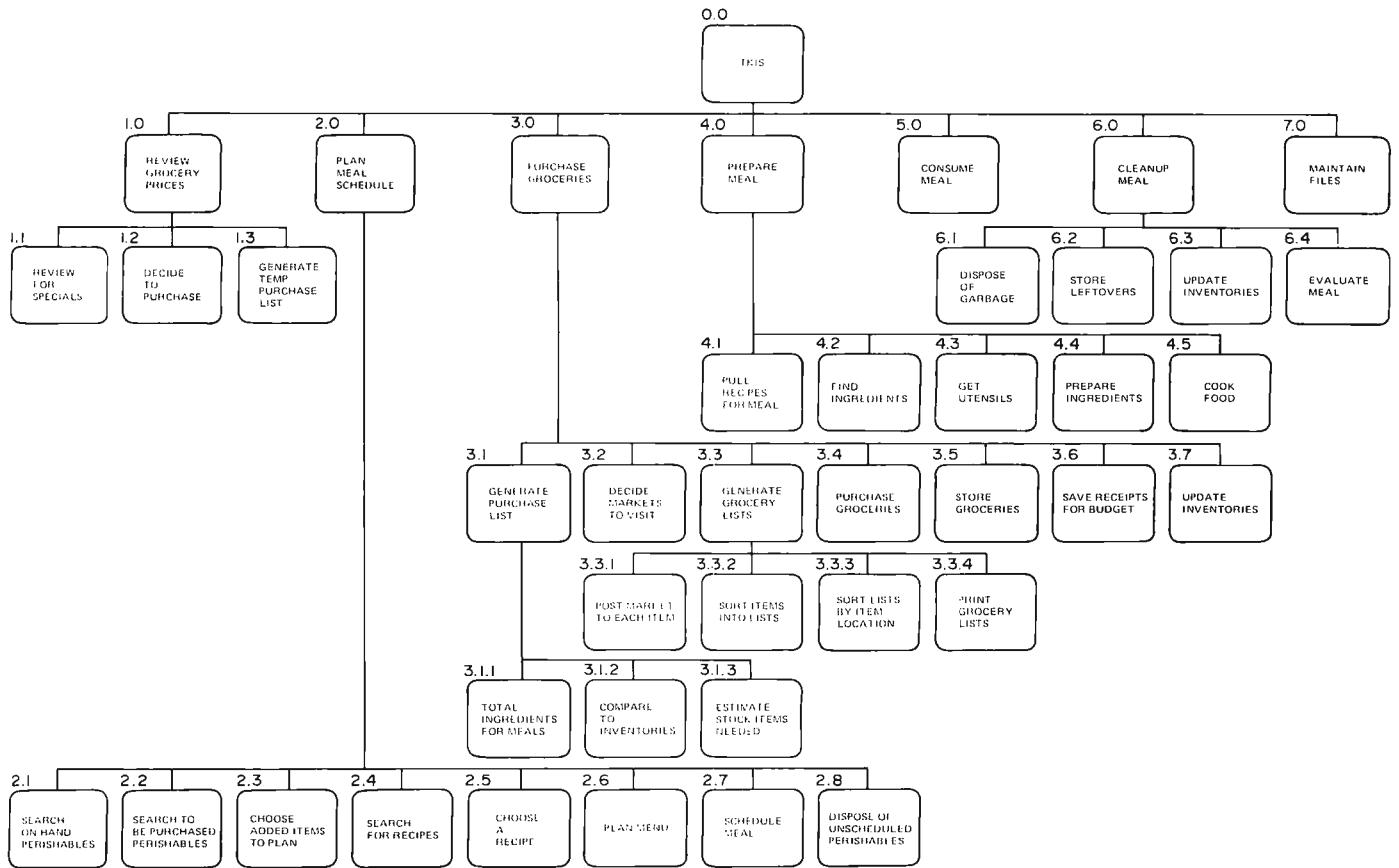

Figure 1: Functions of Total Kitchen Information System.
Figure 1 shows the functions to be performed by a TKIS, structured in hierachic fashion — meaning that every function is made up of several subfunctions, each function box performs one general task which can be divided into several specific tasks, and so on. This chart differs from a flowchart in that the function boxes are not necessarily performed in left to right order, nor are the conditions for execution given. The hierarchy (H) chart attempts to outline *what* a system must do, but not *how*, *when*, or *if*.